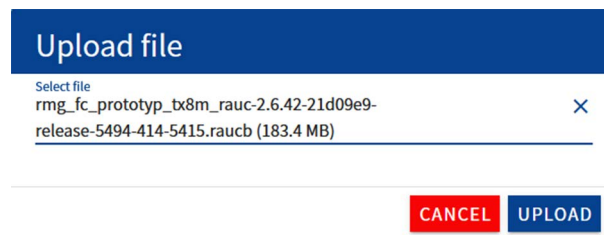

Fig. 99: Upload file window
- ➡ The selected file is displayed in the **Upload file** window (cf. fig. 99)